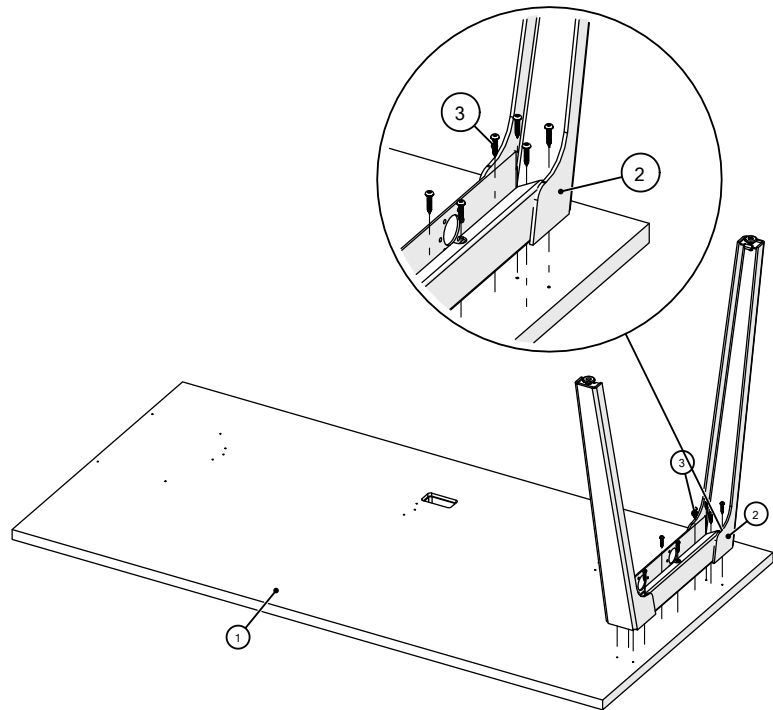

Figure 1
- 2. Position the A-leg over pilot holes in underside of worksurface; attach the A-leg to worksurface using the (10) #10 x 1" Pan Head Screws, (Figure 1).